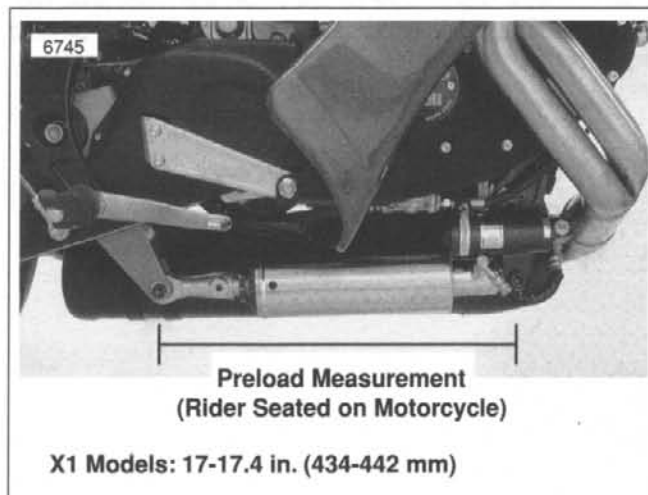

Figure 1-48. Measuring Preload (Typical)
1. See Figure 1-48. Check and adjust rear shock preload.